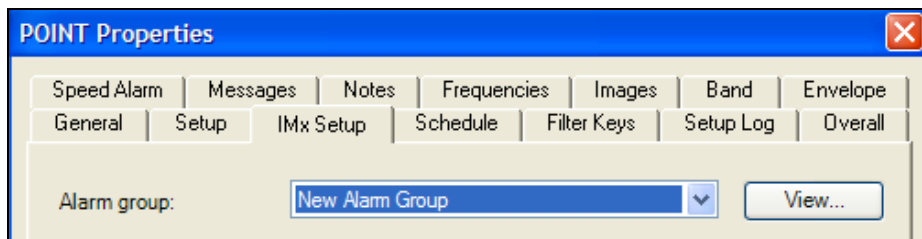

Figure 3. Select Alarm group to remove
1. Select the alarm group to be removed from the **Alarm group** drop-down list. [Figure 3]